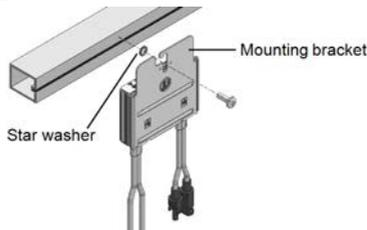

Figure 3: Power optimizer installation and grounding using a star washer
1. Determine the power optimizer mounting location and use the power optimizer mounting brackets to attach the power optimizer to the support structure (See *Figure 3*). It is recommended to mount the power optimizer in a location protected from direct sunlight. For frame-mounted power optimizers follow the instructions supplied with the optimizers, or refer to [https://www.solaredge.com/sites/default/files/installing\\_frame\\_mounted\\_power\\_optimizers.pdf](https://www.solaredge.com/sites/default/files/installing_frame_mounted_power_optimizers.pdf).
- **For mounting on a grounded metal rail:** Use the provided 5/16" stainless steel grounding star washer between the railing and the flat side of the mounting bracket. The grounding washer should break through the anodize coating of the railing to ensure low resistive connection. Apply torque of 9.5 N\*m / 7 lb\*ft. See *Figure 3*.